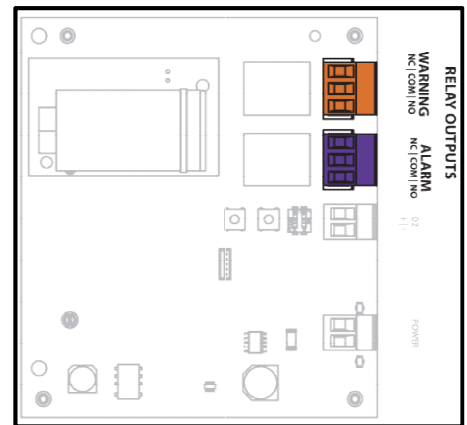

Figure 4: Relay Outputs
The controller has two, 10 Amp, 120/277 VAC rated, SPDT dry-contact relay output connections (shown in Figure 4) that can directly control loads up to 10 Amps. The relay connections have three-terminal screw connectors that allow devices to be wired to the controller in either normally-open (NO) or normally-closed (NC) configuration. These outputs are activated when ambient air oxygen concentrations fall below the controller threshold settings (refer to Section 4.2 for more information).
3. Connect a supply voltage for the device being attached to the controller's relay output to either the *NO* or *NC* location of the screw terminal (see Figure 4).